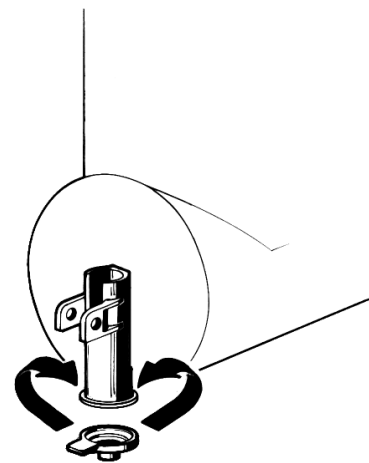

figure 5
- 11 -Restrictor cap: when the unit is used in Soft Drink mode it is advisable to install the restrictor cap on the faucet outlet in order to reduce the drink outflow (see figure 5).